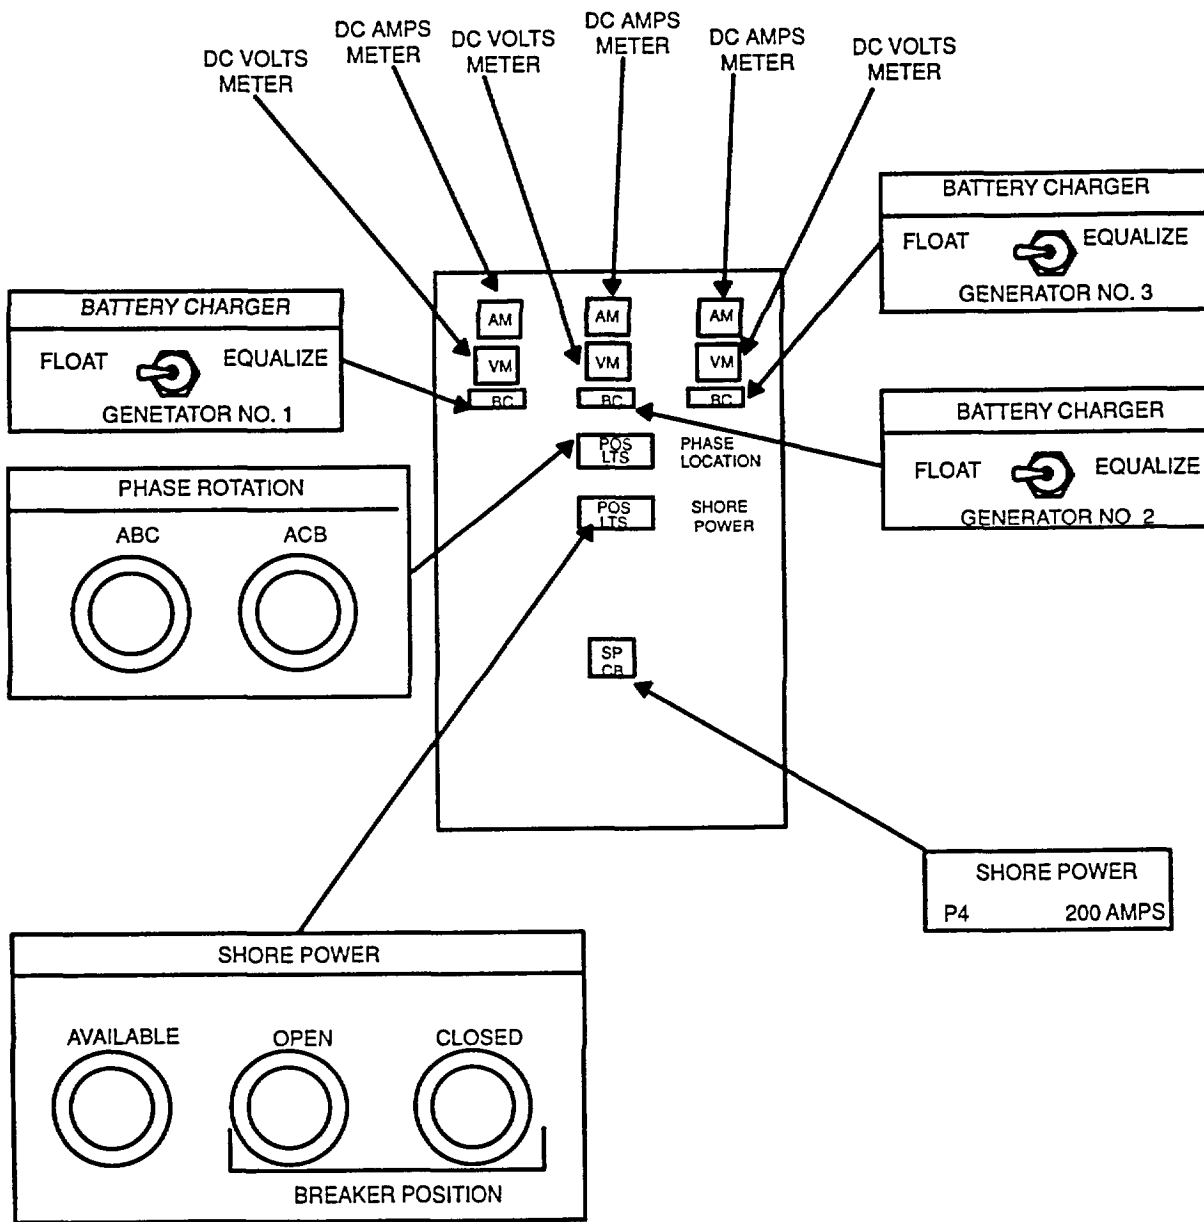

Figure 3-15. Switchboard Miscellaneous Controls and Indicators
3-7.1.5 Miscellaneous controls and indicators. The lower right switchboard panel (Figure 3-15) monitors the three battery chargers that maintain generator battery banks and shows status of the shore power circuit breaker. Panel indicators and controls include the following:
- c. Check that shore power circuit breaker P4 (Figure 3-15) is (OFF).
- g. Check that battery charger for starting generator is set on FLOAT (Figure 3-15).
- (2) Battery charger ammeter DC AMPS and DC VOLTS meters (Figure 3-15) indicate ammeter is charging batteries.
- a. Verify that shore power is 440 Vac, 60 Hz, 3 ph. If power does not match this requirement, switchboard circuit breaker P4 (Figure 3-15), connecting shore power to switchboard bus, will not dose.
- d. On switchboard panel, dose (ON) circuit breaker P4 (Figure 3-15).